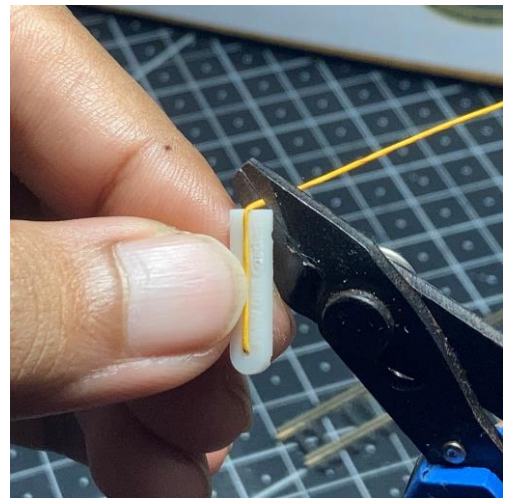

Figure 16
- Bend 90 degrees again at the edge, and cut at the bottom edge – Fig 16.